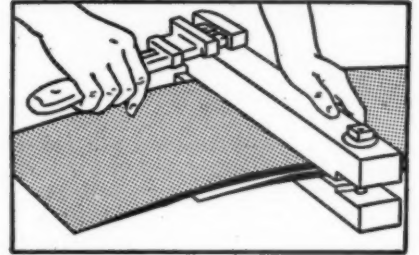

Figure 11
6. Place belt clamps as far back as possible to allow ample take-up on rods (Fig. 11).
8. Cement (Figures 11 to 14).